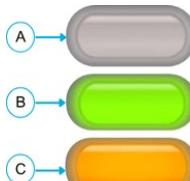

Figure 12-22: Status Indicator Light
2. Verify that the Status Indicator Light is green (B) (Figure 12-22).
- During vapor treatment the Status Indicator Light is orange (C) (Figure 12-22)
- When the full treatment of 10 seconds is complete, the vapor will stop automatically, the Generator will beep, and the Status Indicator Light will turn gray to indicate Status Waiting (A)
■ **NOTE:** To terminate vapor treatment prior to 10 seconds, release the **Vapor Delivery Button (D)**.